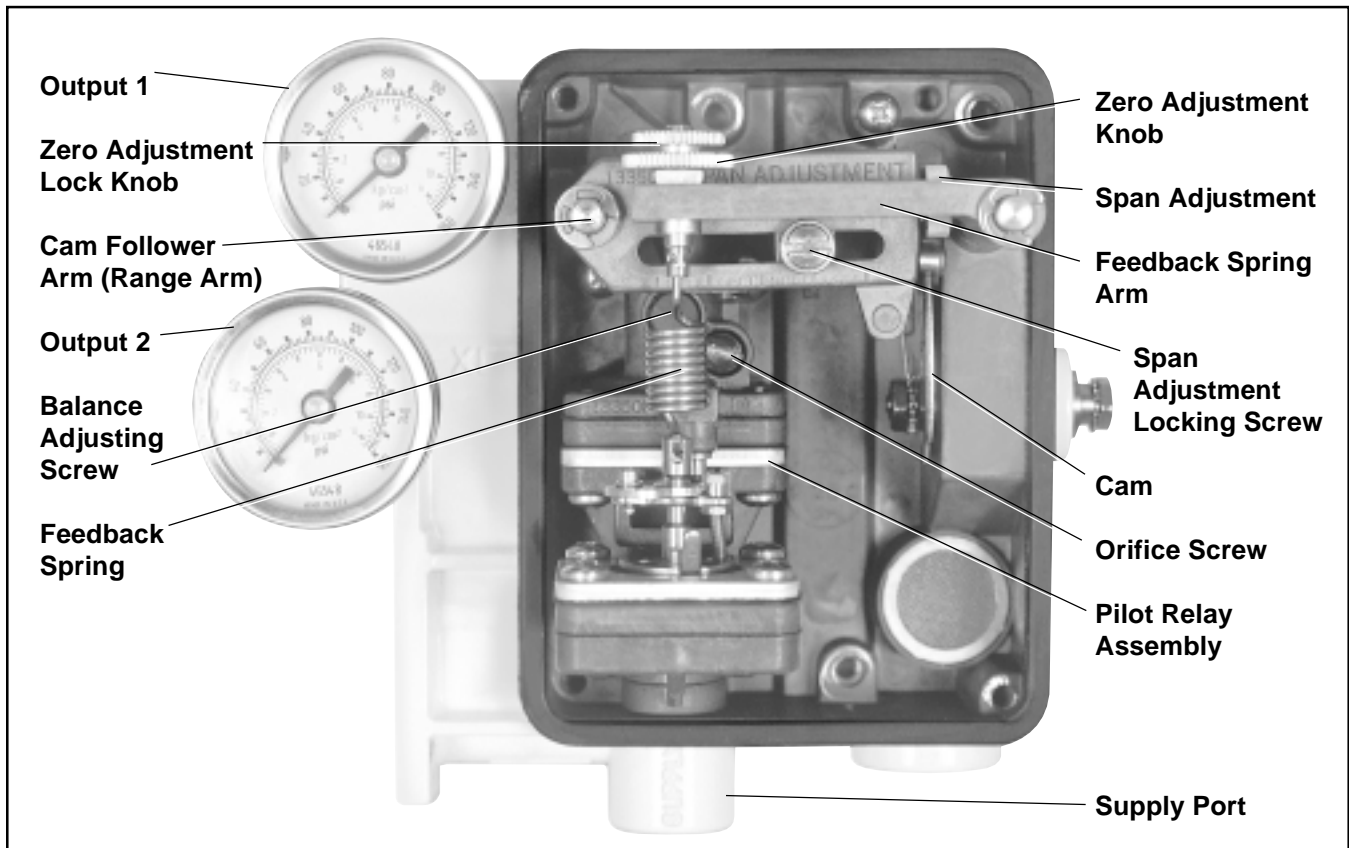

Figure 7: Positioner Adjustments
5. Feed the appropriate follower arm onto the cam shaft boss with the hole markings facing outward. Secure with the lockwasher and nut. (See Figure 7.)
4. Remove rubber cap over balance adjustment. (See Figure 7.)